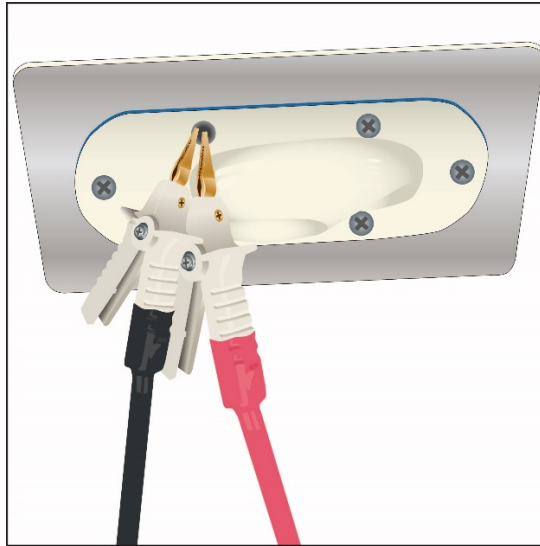

Figure 7
- 1) Measure the resistance between the antenna baseplate and the airplane skin with a milli ohm meter. Make sure that the resistance is 2.5 milli ohms or less, and, if not, retighten fasteners until desired resistance is achieved. (Figures 7&8)